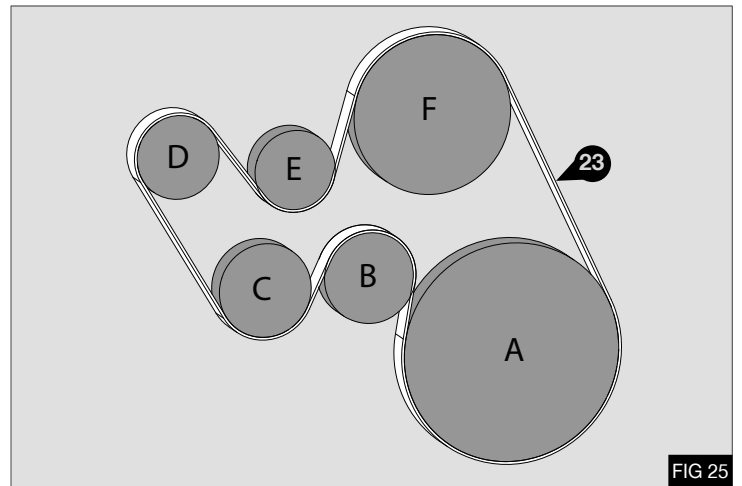

FIG 25
- Fit the supplied drive belt (23), and remove locking pin from auto tensioner (N) - Fig 25